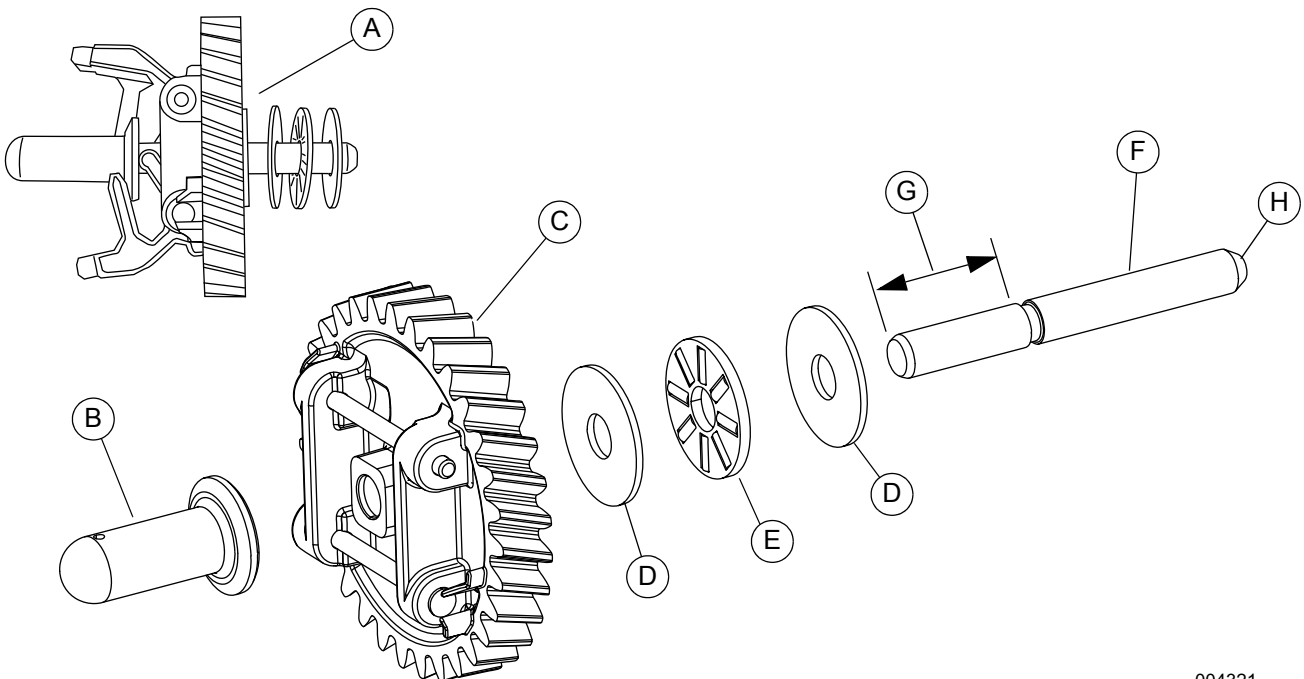

Figure 6-2. Governor Assembly and Components
3. See Figure 6-2. Verify all governor bearing parts (bearing E and both roller bearing plates D) are on the shaft, and it moves smoothly.